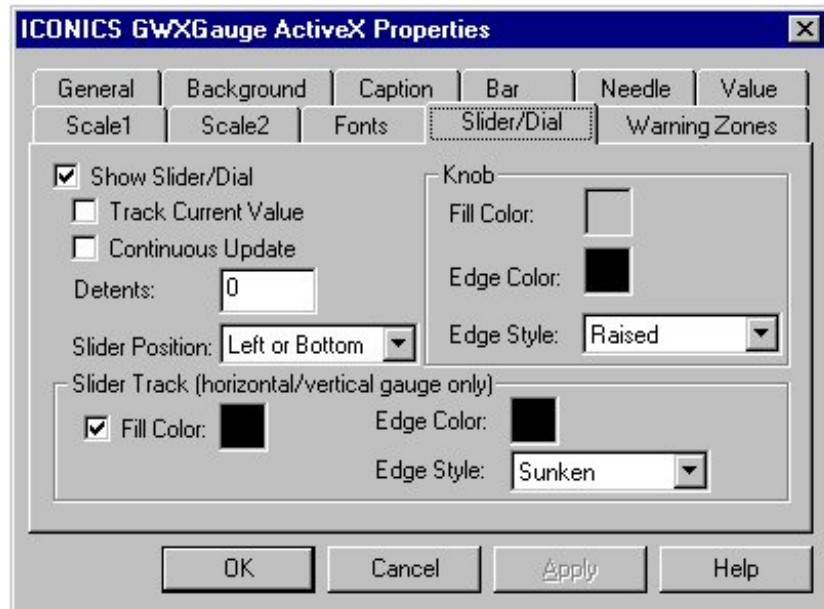

Figure 15-13: GWXGauge ActiveX Properties Dialog Box: Slider/Dial Tab
2. Select the Slider/Dial tab (Figure 15-13).